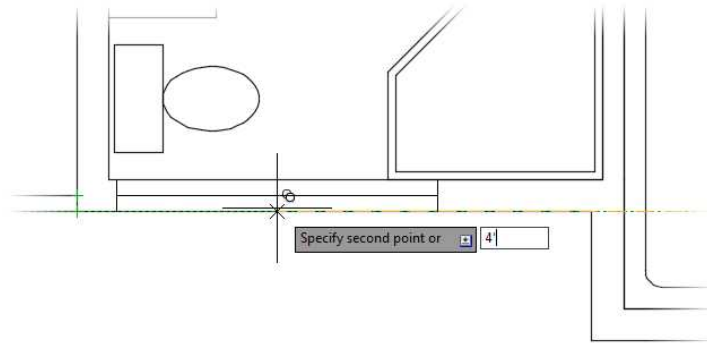

FIGURE 7.42: Setting the COPY command's second point 4' (1220 mm) from the corner
12. Move the cursor directly to the right, and enter 4'↵ (1220↵), as shown in Figure 7.42.